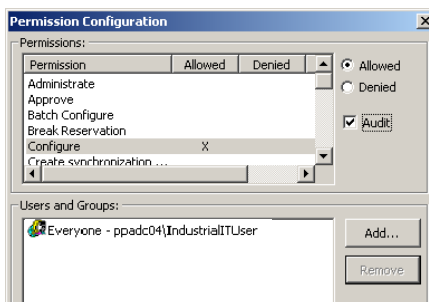

Figure 68. Audit Configuration
3. Mark the **Audit** check box to set audit for the different permissions settings. See Figure 68.